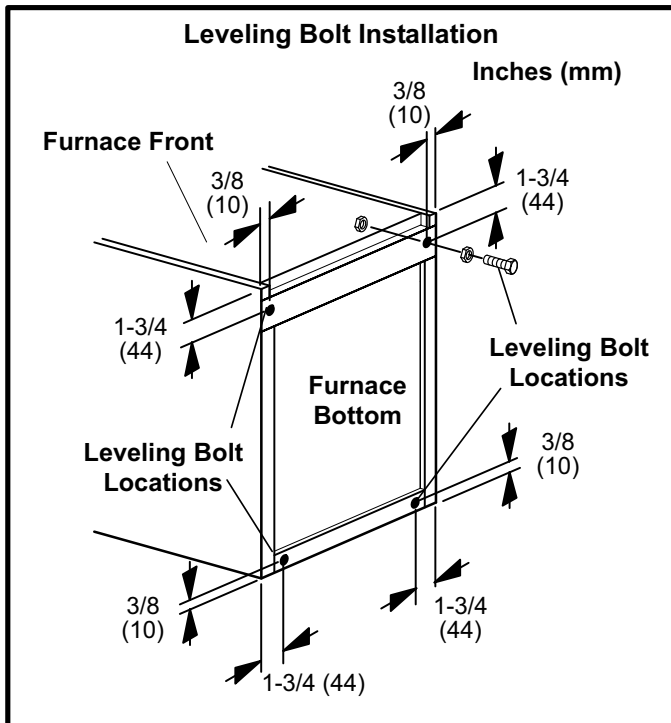

FIGURE 12
When the side return air inlets are used in an upflow application, it may be necessary to install leveling bolts on the bottom of the furnace. Use field-supplied corrosion-resistant 5/16 inch machine bolts (4) and nuts (8). See figure 12.
- 1 - Lay the furnace on its back and drill a 5/16 inch diameter hole in each corner of the furnace's bottom. See figure 12 for the correct location of the holes. Drill through the bottom panel and the bottom flange of the cabinet.